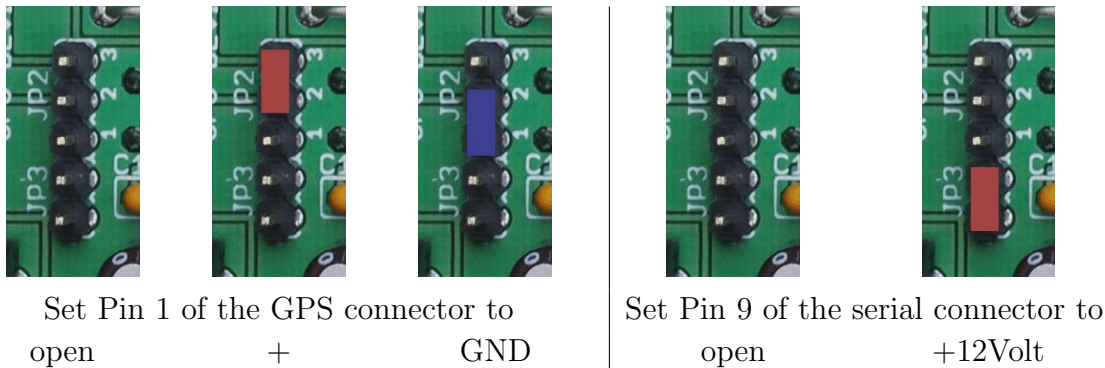

Figure 42: The settings for Jumper JP2 and JP3 of PCB 6 Version 6
2. Jumper JP2 allows you to connect Pin 1 of the GPS connector with GND or +5/+4.3/+3.6/+2.9 Volt depending on the setting of Jumper JP1, see Figure 42 to the left. JP3 allows you to connect +12 Volt to Pin 9 of the serial 9-ways Sub-D connector, see Figure 42 to the right. This allows you to power the PCBs via pin 9 of the serial connector.